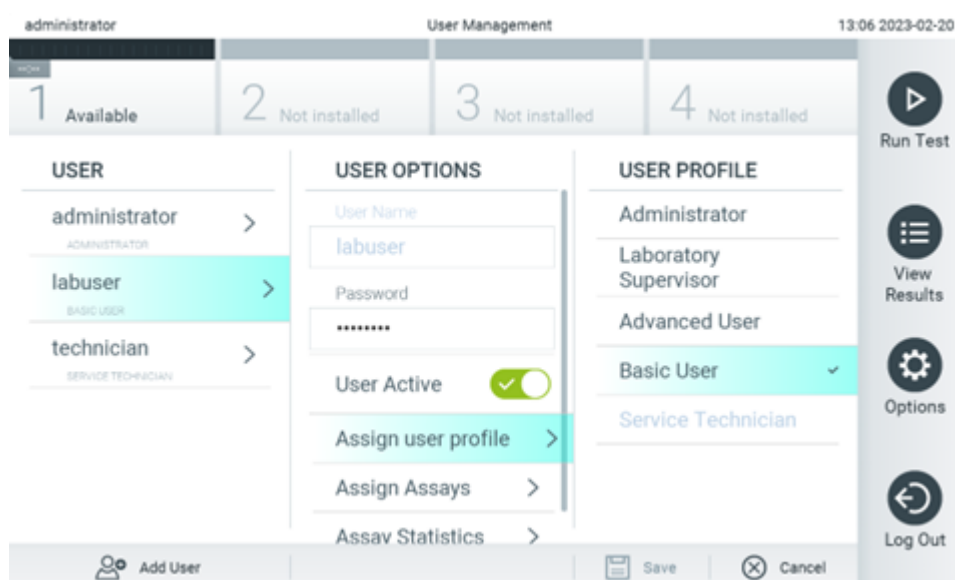

Figure 52. Assigning user profiles to users.
- **Assign User Profile:** Enables assigning a different user profile for that user (e.g., Administrator, Laboratory Supervisor, Advanced User, Basic User). Select the appropriate user profile from the **User** list on the right of the content area (Figure 52).